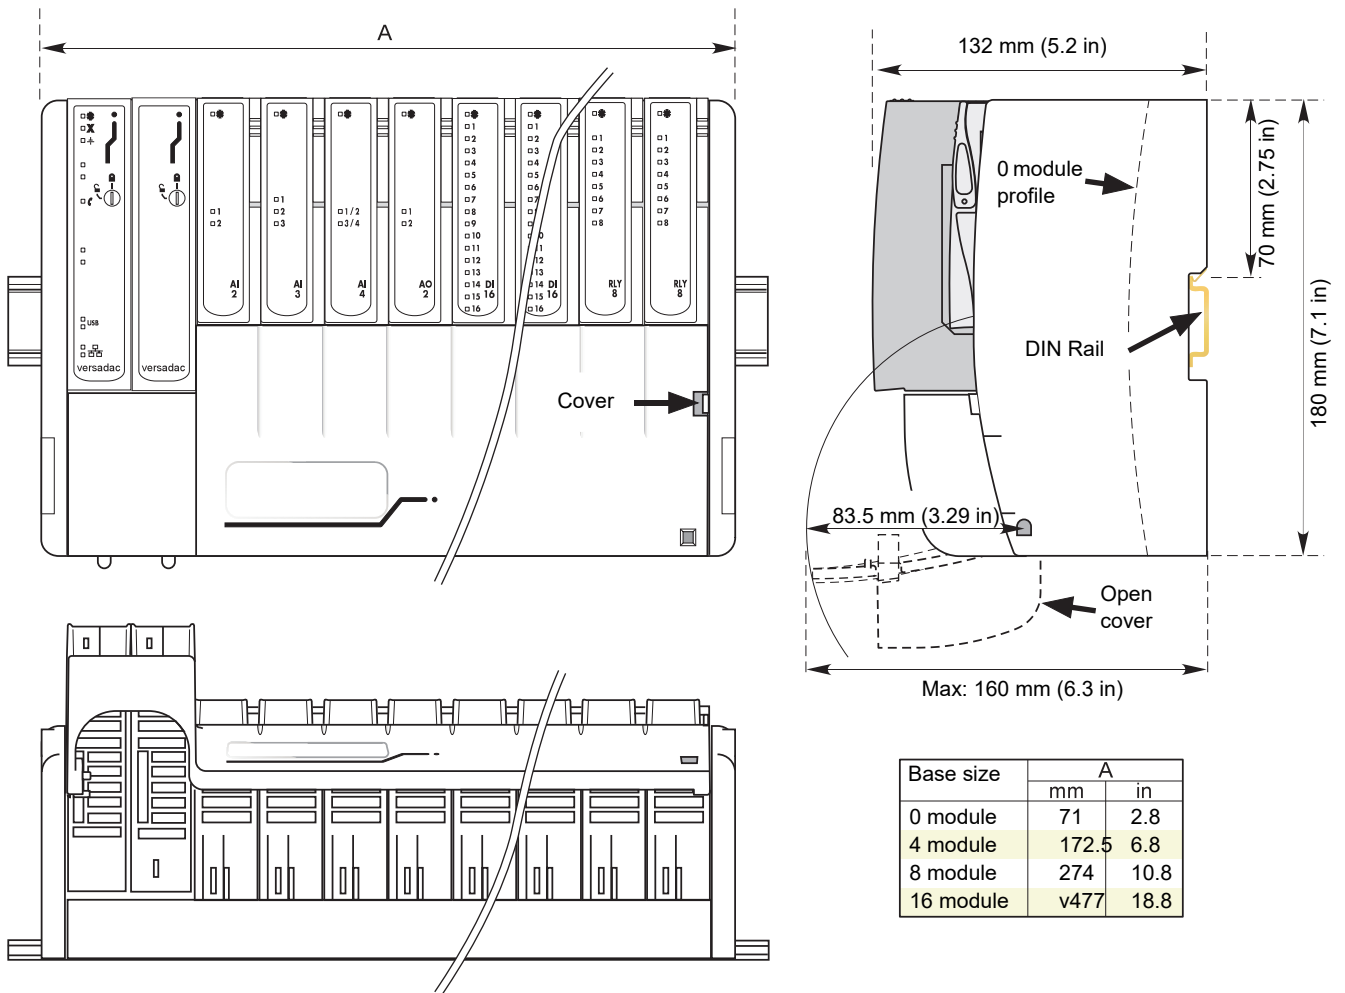
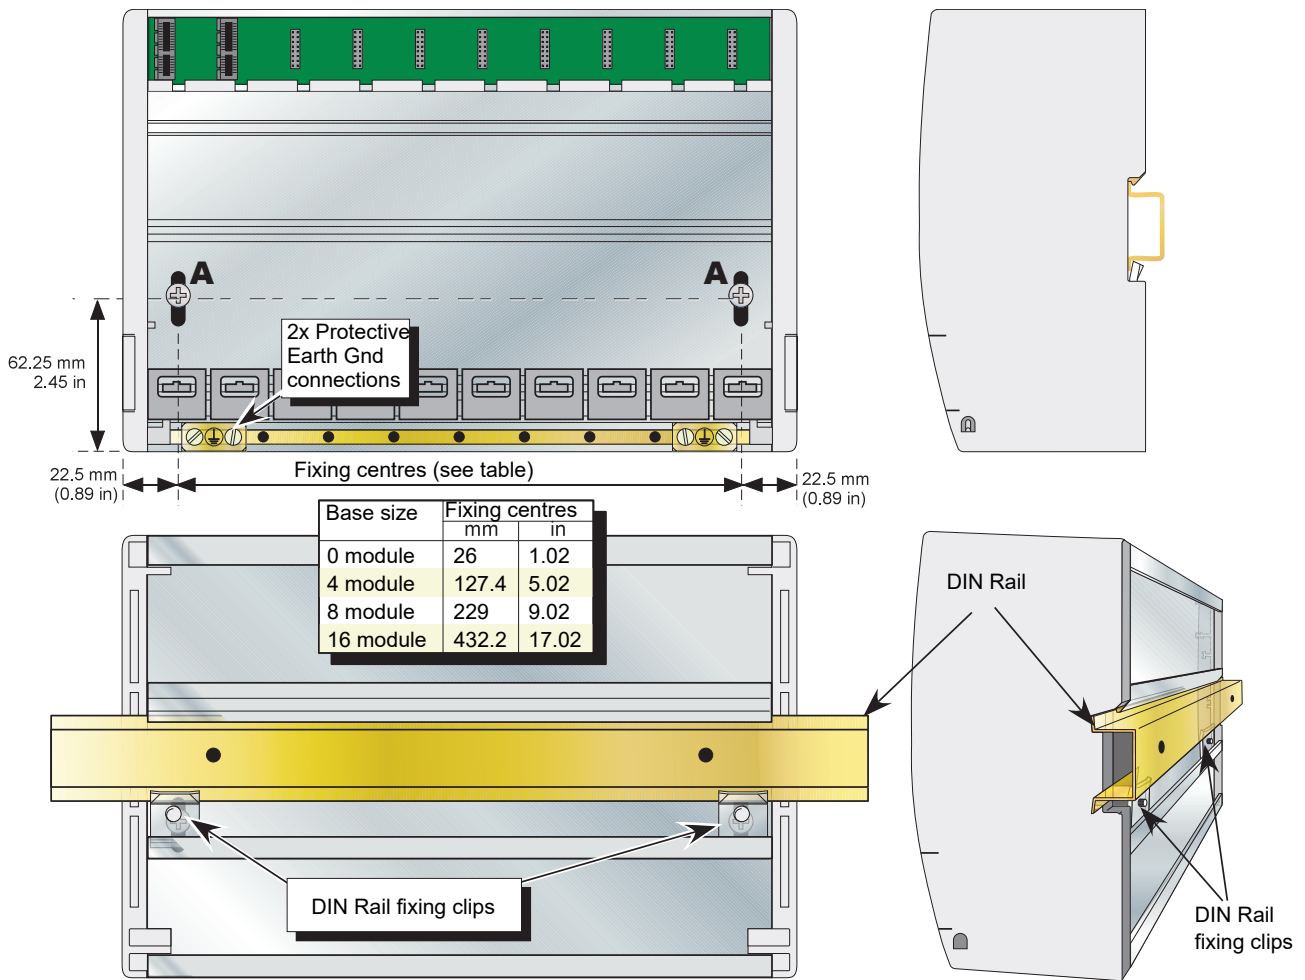
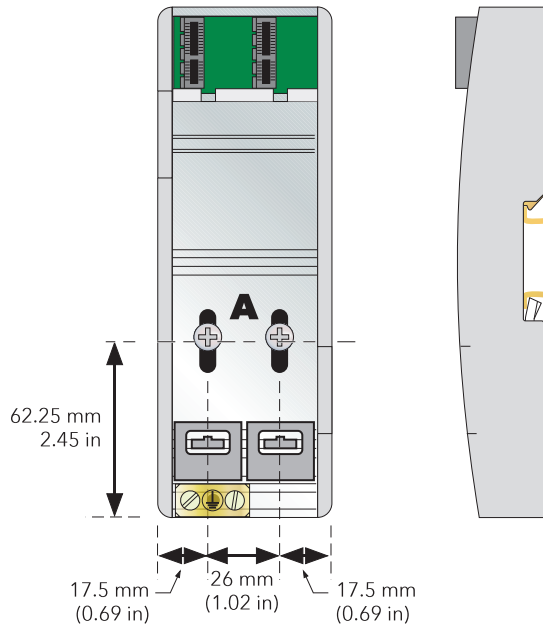

Figure 1 Overall Dimensions
Figure 2 Fixing Details
Figure 3 No-module base details
Figure 1 gives dimensional details; Figure 2 gives fixing details.
2. Loosen the screws ('A' in Figure 2 and Figure 3) in the Base Unit, two or three turns, and allow them, and the associated fixing clips, to slide to the bottom of the screw slot.
3. Lower the base unit on to the DIN rail such that the top edge of the rail fits into the slot on the underside of the support bar (see Figure 2 and Figure 3).
4. Slide the screws (A) and associated clips as far as they will go towards the top of the screw slots, ensuring that the top of each fixing clip locates behind the bottom edge of the DIN rail.
1. Remove the screws (A in Figure 2 and Figure 3) and associated fixing clips.
Figure 2 above, and associated text gives protective earth ground details.